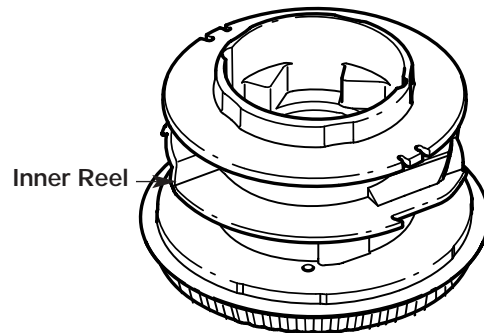

Fig. 49
4. Remove any existing line from the inner reel before cleaning. Remove any debris or grass from the knob, spring, inner reel and foam seal. Wash the inner reel with warm soapy water (Fig. 49).